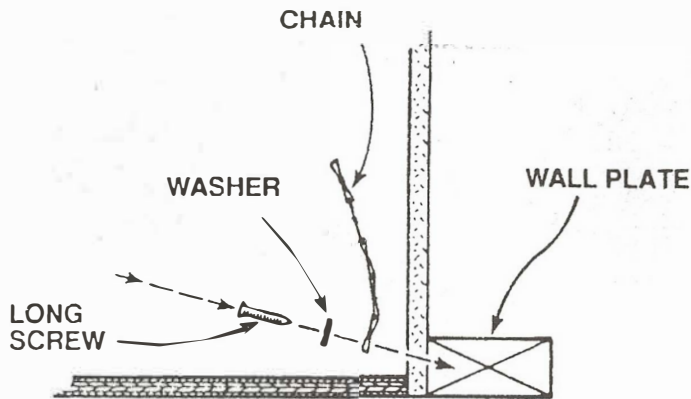
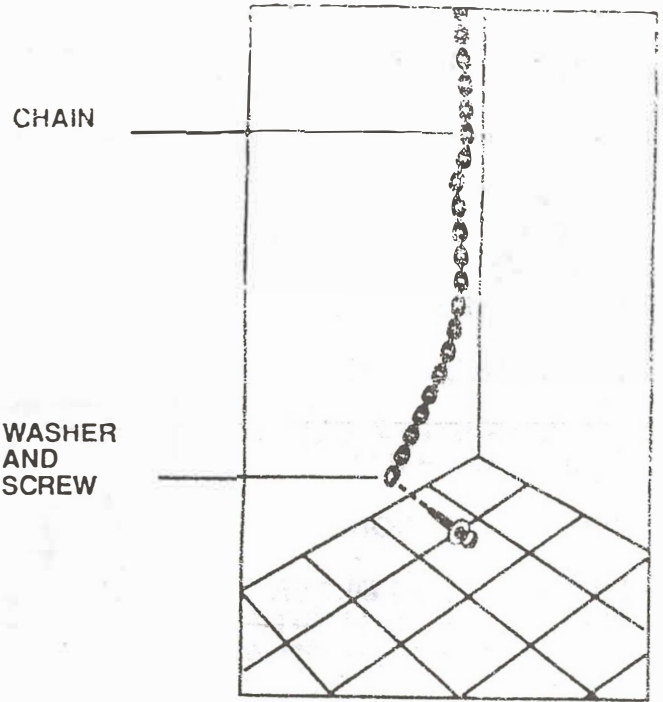

Fig 3
Fig. 2
- Fasten one end of the stability chain to the floor or the wall with the long screw and washer supplied. (See Fig. 2). Make certain the screw is going into the wall plate at the base of the wall or one of the studs in the wall. (see Fig. 3). Whether you attach the chain to the wall or floor, be certain that the screw is in at least 3/4" thickness of wood other than baseboard and that there are no electrical wires or plumbing in the area which the screw could penetrate. Attach the stability chain in a location which will allow the chain to be in line with the bracket side to side as much as possible when attached to the unit. Test to see if the chain is securely fastened by tugging on the chain.